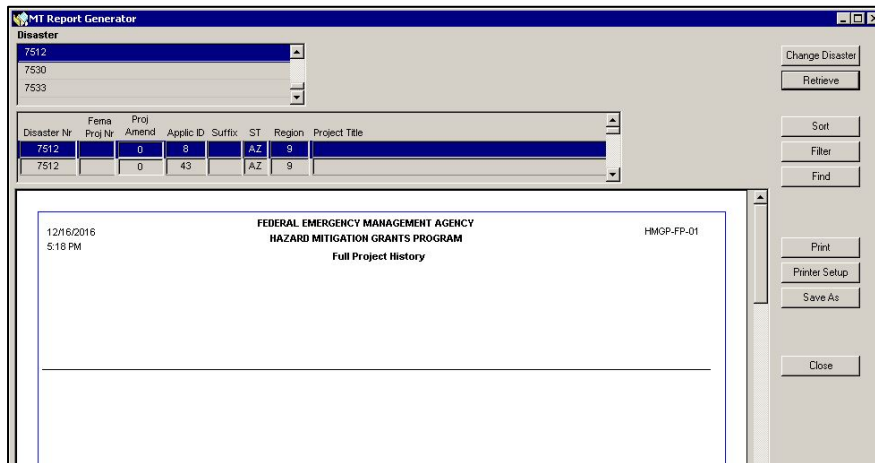

Figure 14-4: MT Report Generator
- d. Click the OK button. The MT Report Generator is displayed (Figure 14-4).